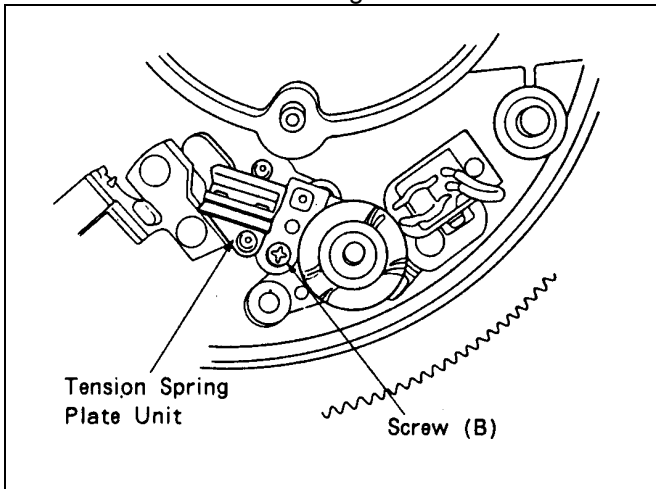

Figure 7-12-2 Tension spring Plate Unit
4. Unscrew screw (B) and remove Tension Spring Plate Unit as shown in figure 7-12-2.